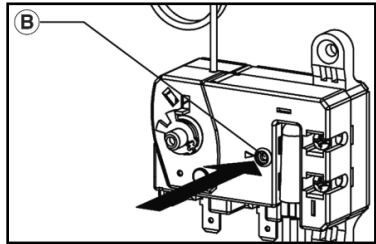

Figure 8 - High Limit Switch Reset Detail
- Firmly press the reset button with the tip of a ball point pen or similar object. See Figure 8, B.